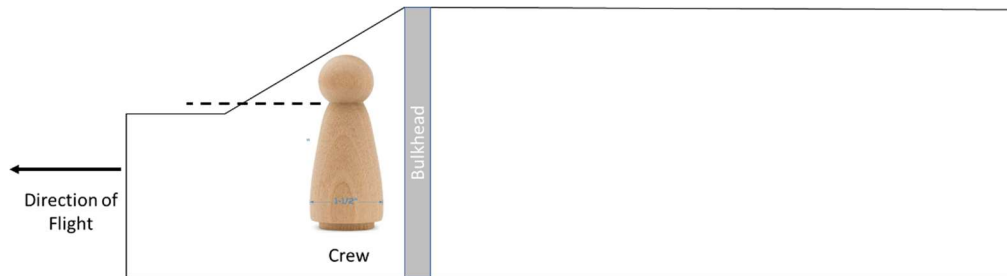

Figure 6. Crew Placement Above Forward Fuselage.
- The Crew shall be in a cockpit such that their heads are above the fuselage forward of the cockpit as shown in Figure 6. It is incumbent on each team to assure this requirement can be verified in Tech Inspection.